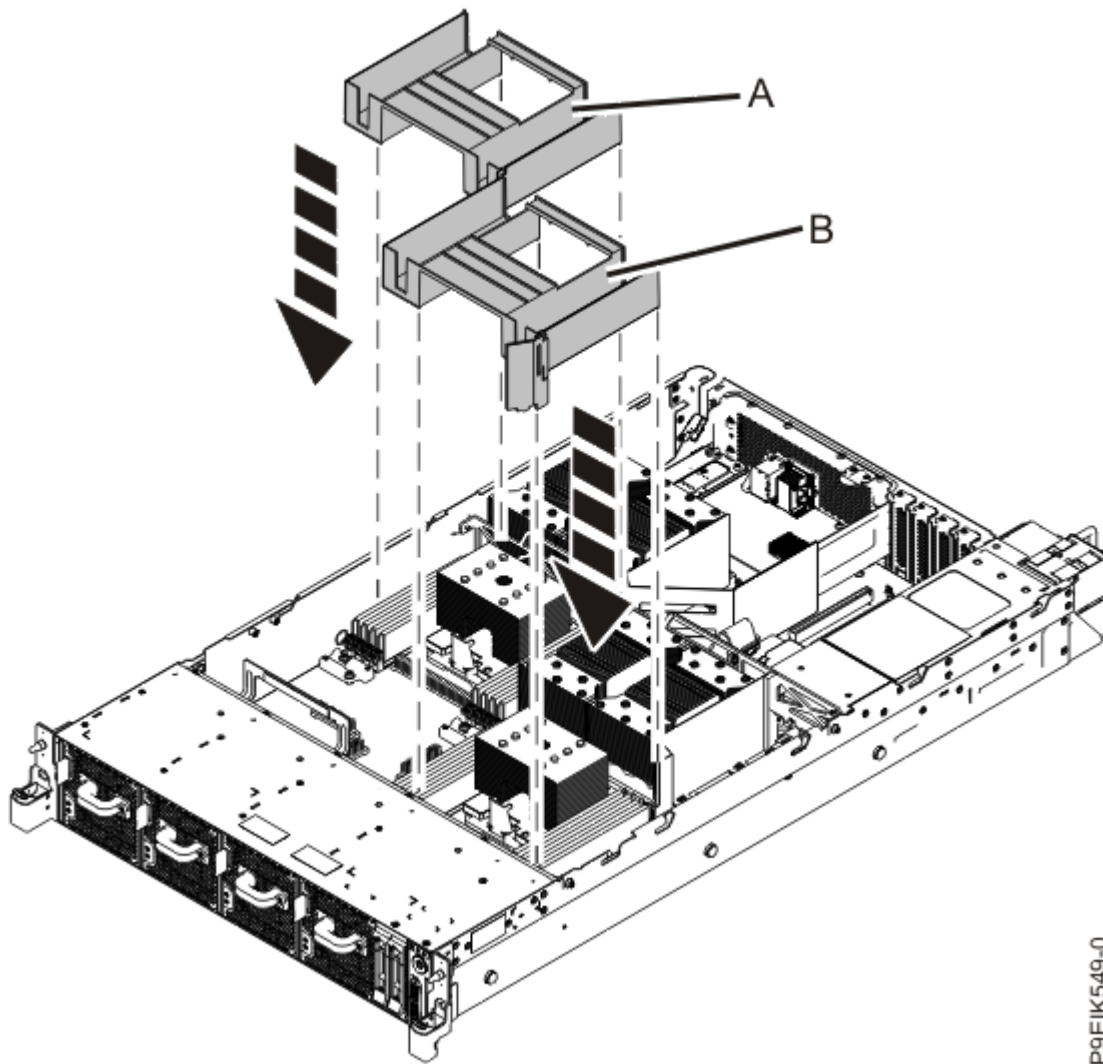

Figure 70. Replacing the system processor air baffles
32. Replace the air baffles (A) and (B) as shown in Figure 70 on page 86.